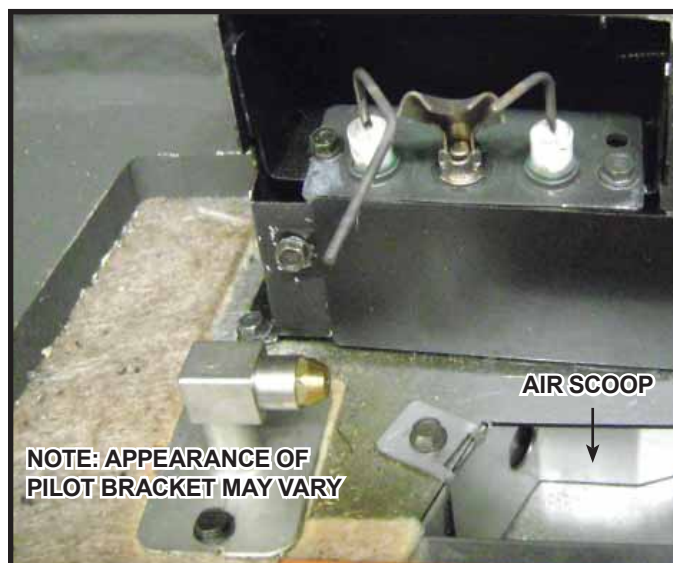
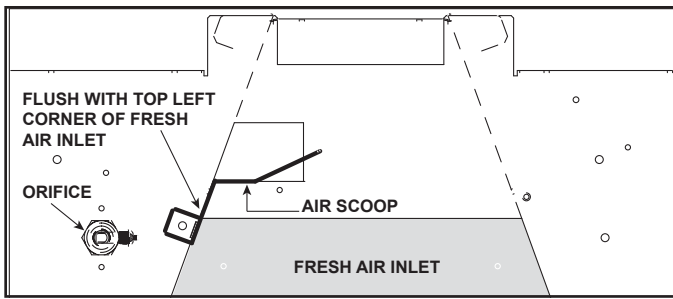

Figure 10. Air Scoop Installation
Figure 11. Air Scoop Location (Top View)
25. Place the air scoop down into the opening directly to the right of the burner orifice so that the screw tab is flush to the back corner of the fresh air inlet. See Figure 10 and Figure 11.
26. Secure the air scoop in place using a self-tapping screw. See Figure 10 and Figure 11.